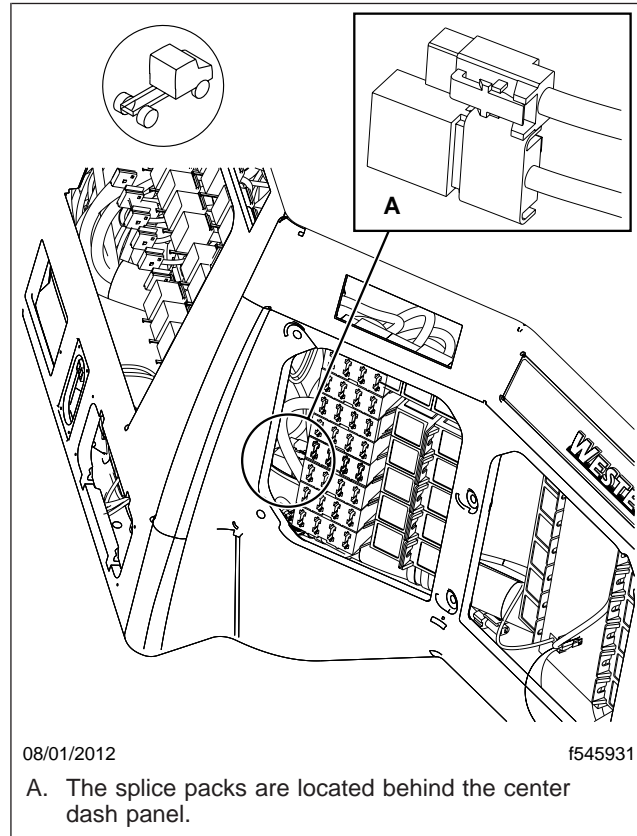

Fig. 2, Western Star Dash Assembly
- 2.3 Access the ground and ignition splice packs, located behind the front switch panel. See Fig. 2.